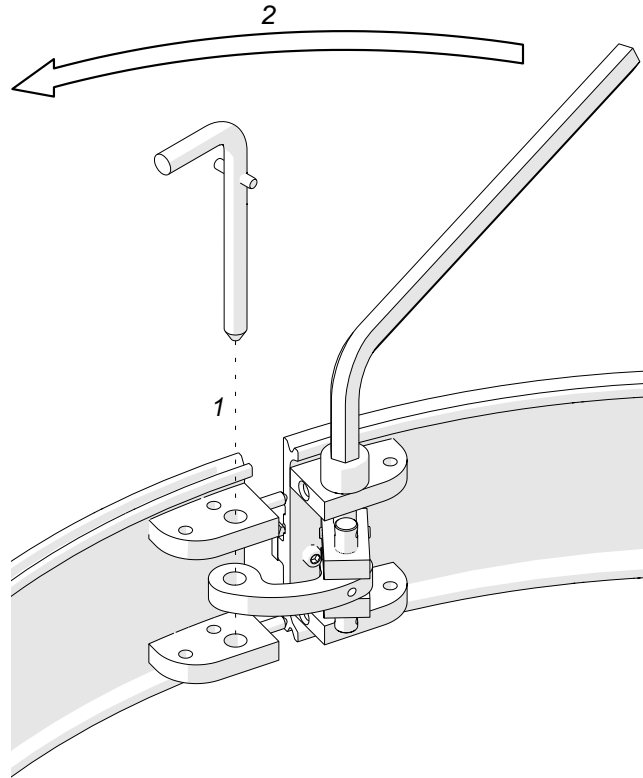

Fig. 4. Connecting the rails of the ring track
Position the workpiece vertically and wrap the rails around it in such a way to direct the teeth of the gear racks downward. Next, for all rails, use the 12 mm hex wrench to set the hinge as shown in Fig. 4, insert the lock pin through the holes (1), and then rotate the wrench (2) to connect the rails.